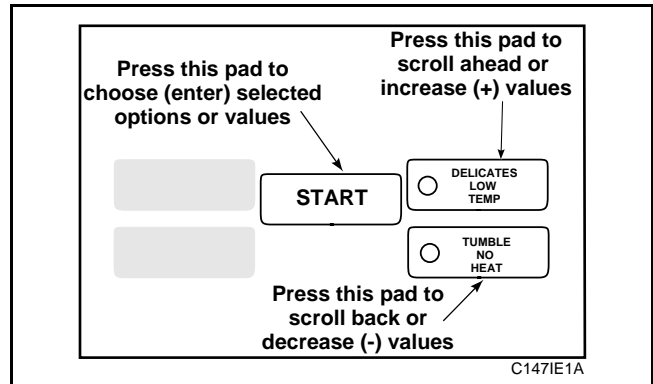

Figure 39
5. Press the LOW TEMP (+) pad or the NO HEAT (-) pad to increase or decrease the current number of minutes to the desired number of minutes, *Figure 39*.